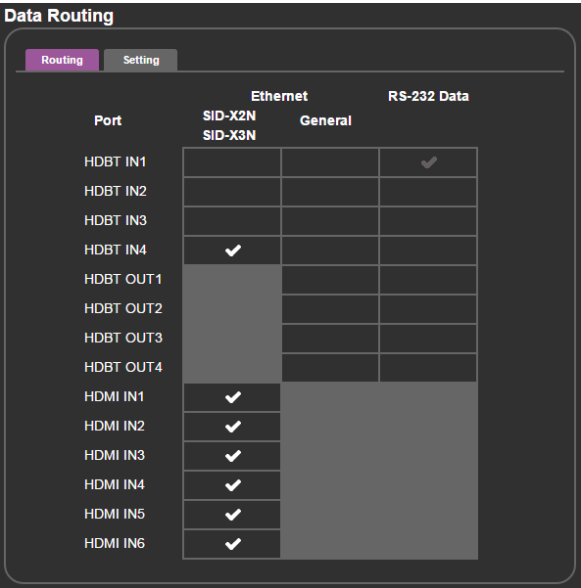

Figure 51: The Data Routing Page –The Routing Tab
- Ethernet-General, you can transmit data from a controller connected via the connected SID-X2N/SID-X3N to the HDBaseT/HDMI input to which it is connected (see Figure 51 for example)
Figure 51 shows the Routing tab and Figure 52 shows the Setting tab.